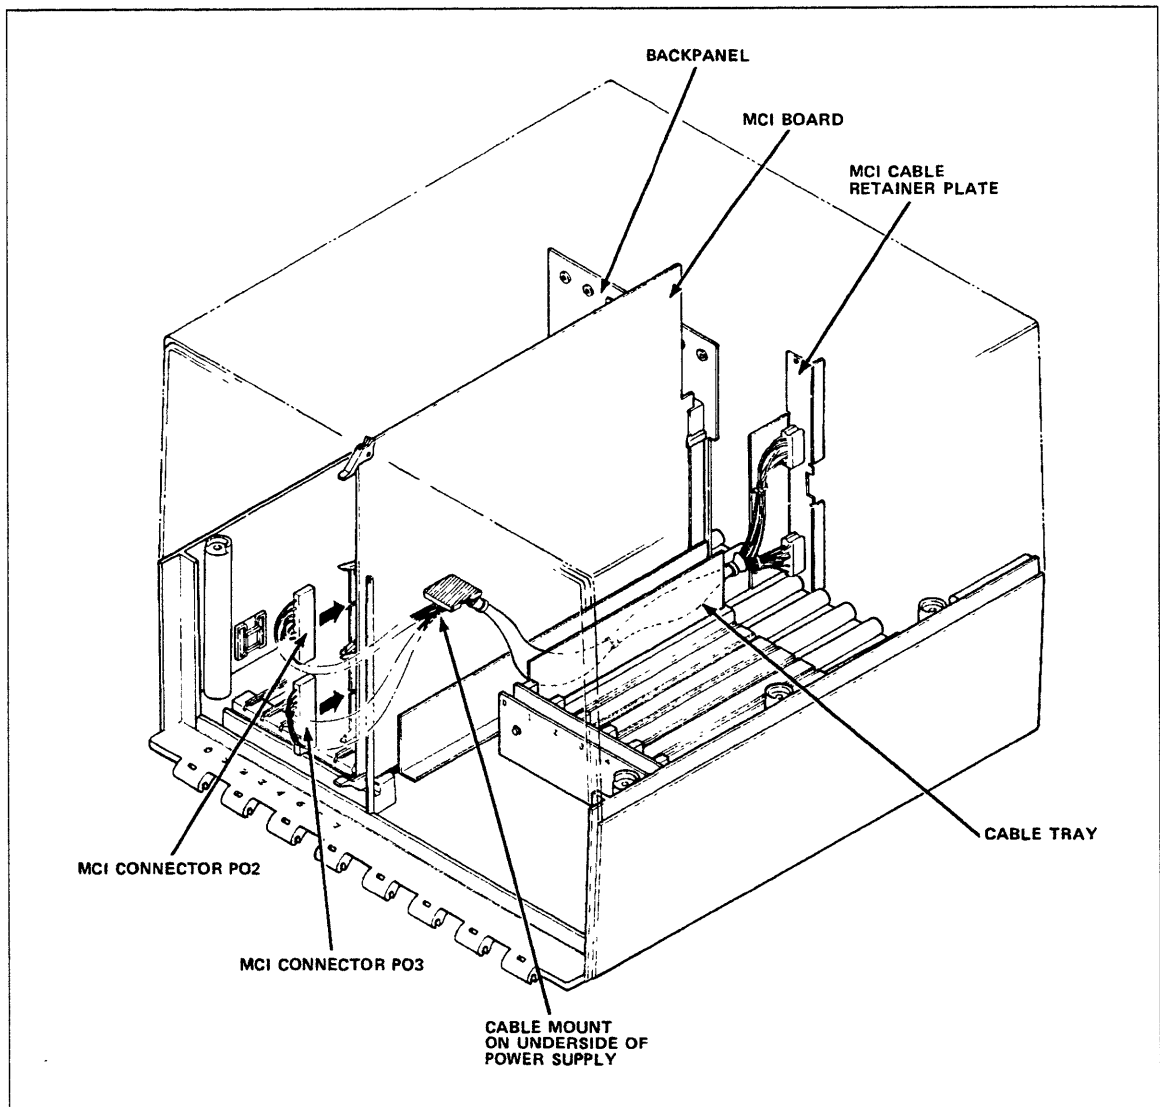

Figure 3-52. MCI Cable Installation
5. Install MCI cable (figure 3-52). One end of the cable has two connectors that plug into the MCI board. The other end has a retainer plate that is installed on the back of the cabinet.